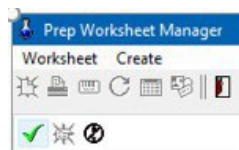
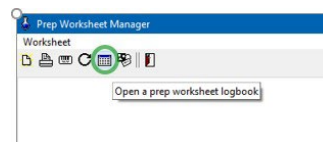

Figure 2
Figure 3
- 3.3.1.2. Click on the “check mark” icon to “**Create the new worksheet**” highlighted in Figure 2. Press [Escape] or click on the Abort (ESC) icon. Next, click on the “**Open a prep worksheet logbook**” icon to view the worksheet. See Figure 3.
3.3.1.3.2. Click on the check mark icon **Create the new worksheet** highlighted in Figure 2. Press [Escape] or click on the Abort (ESC) icon. Next, click on the **Open a prep worksheet logbook** icon to view the worksheet. See Figure 3.
logbook (See Figure 3.)